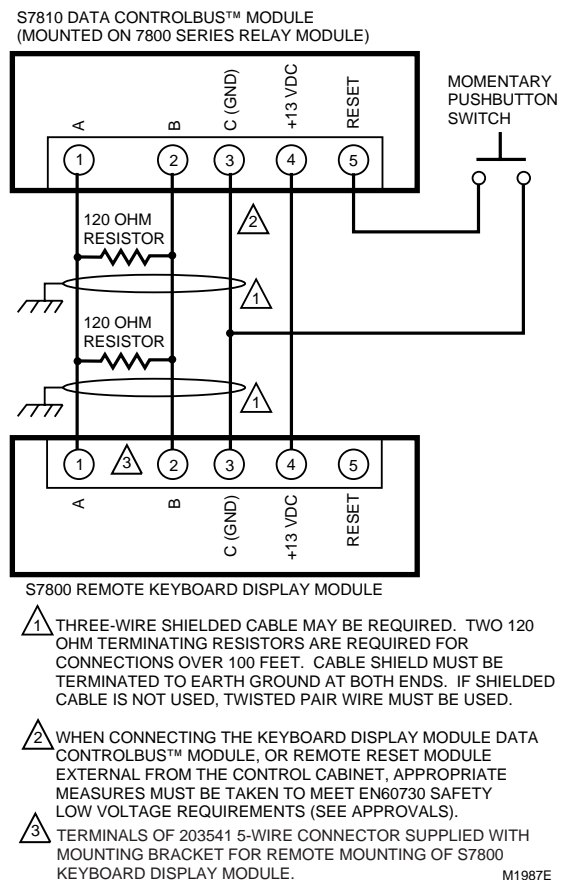

Fig. 3. Wiring the Data ControlBus™ Module.
- minimum) resistor termination across terminals 1 and 2 of the electrical connectors for any connections over 100 feet, see Figs. 3 and 4.
4. Recommended grounding practice for Data ControlBus™ Module is to connect the shield, if used, to signal ground, terminal 3(c), provided as a part of the 7800 SERIES device ControlBus connection, see Figs. 3 and 4. Connect the shield at both ends to earth ground